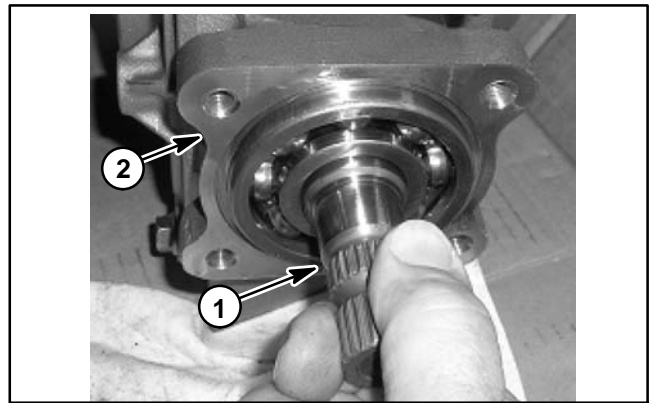

Figure 10
3. Remove the pinion gear with bearing from housing by pulling it out of the gear case by hand (Fig. 10).